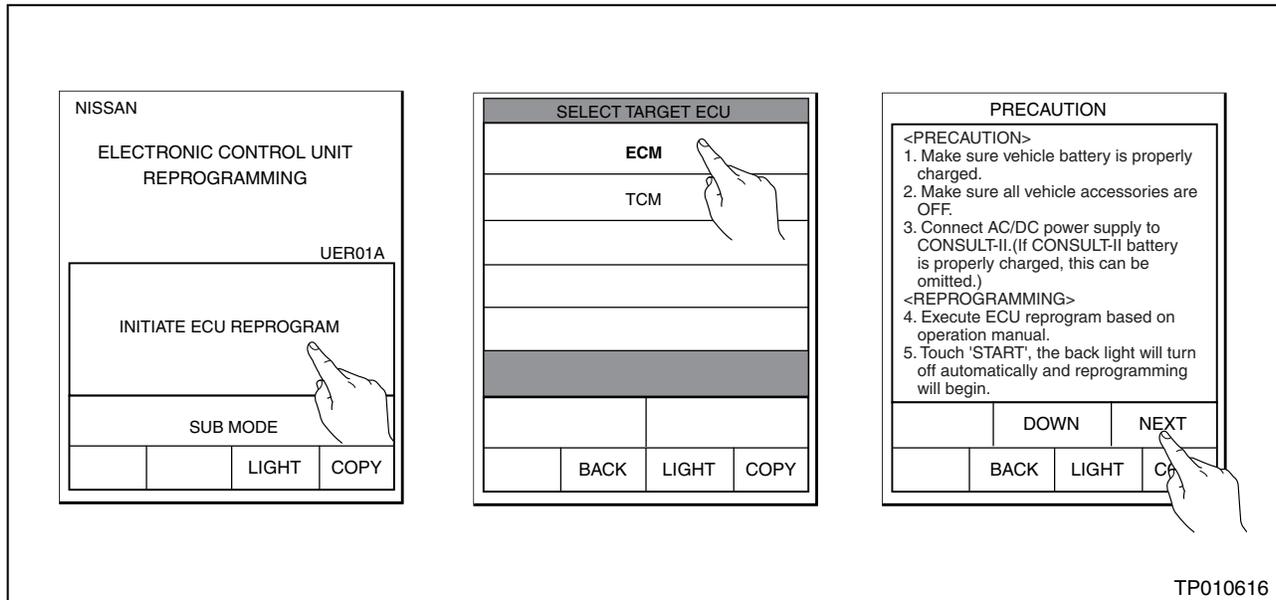

Figure C7
12. Press **"INITIATE ECU REPROGRAM"** (see Figure C7), then do the following: